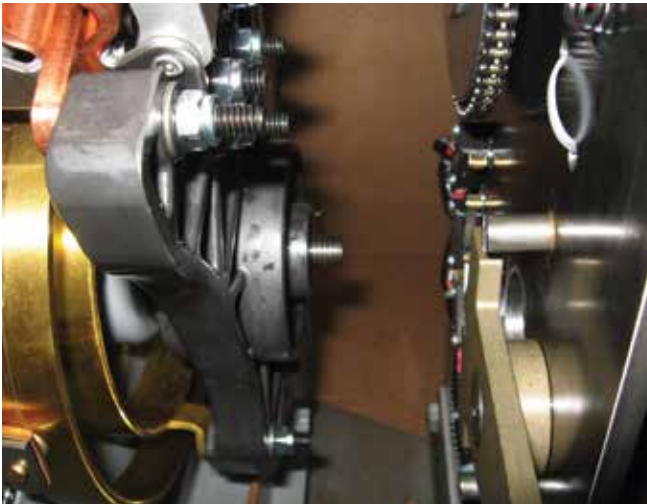

Figure 10. Removal of shaft.
- Push the threaded end of the main shaft through the steel panel toward the molded panel. Support the Geneva gear with one hand and pull the main shaft out from the back of the molded panel until the main shaft is out of the Geneva gear hub. Make sure the washer remains on the shaft and does not fall into the tank. Remove the Geneva gear and slide the washer off the shaft. Refer to Figure 10.